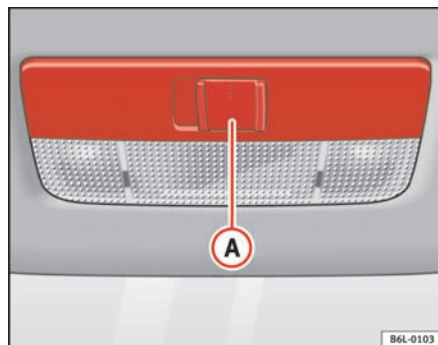

Fig. 61 Interior roof trim:
The switch ⇒ fig. 61 (A) is used to select the following positions:
Move the knob to the position O ⇒ fig. 61.